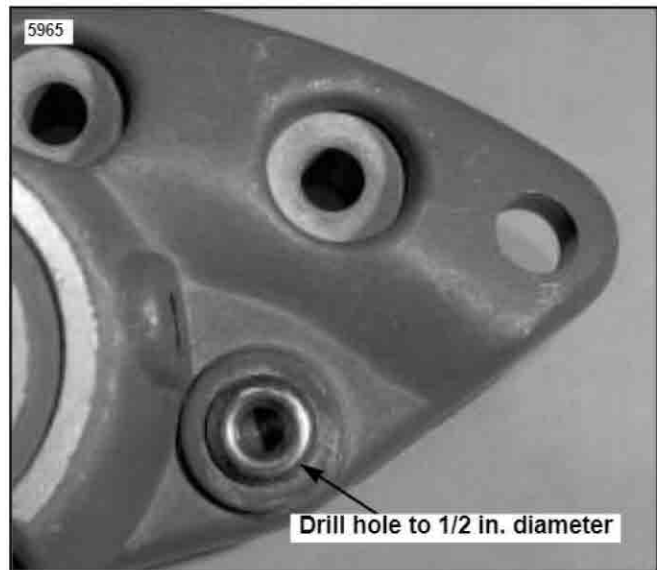

Figure 1. Outer Brake Caliper
1. Place tape over hydraulic line fitting hole to keep chips from entering caliper. Drill out riveted pin from caliper and increase hole size through caliper to 1/2 in. See Figure 1.